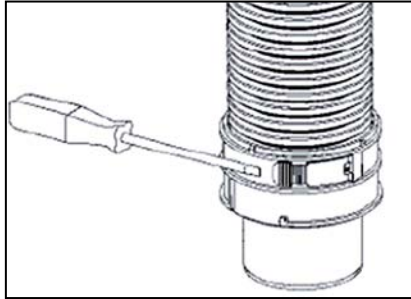

Figure 5 – Loosening the Latching Tabs
7. It is possible to loosen the latching tabs with a screw driver. See Fig. 5.